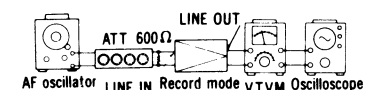

Fig. 37
K Level meter Condition: * Record mode * Input level controls... MAX Equipment: * VTVM * AF oscillator * ATT * Oscilloscope * Resistor (600Ω)	- Test equipment connection is shown in fig. 37. - Supply 1 kHz signal from the AF oscillator, through the ATT to the LINE IN. - Adjust ATT so that the monitor level at LINE OUT becomes 0.39V. - Check to see that the level meter stays within the range of -1 dB to +1 dB. - If it is beyond the range, carry out the following adjustments: - Short soldered points (D) (L-CH) and (F) (R-CH) indicated as "DOWN" where level more than +1 dB. - Short soldered points (C) (L-CH) and (E) (R-CH) indicated as "UP" where level less than -1 dB. (See wiring connection diagram on page 10.)